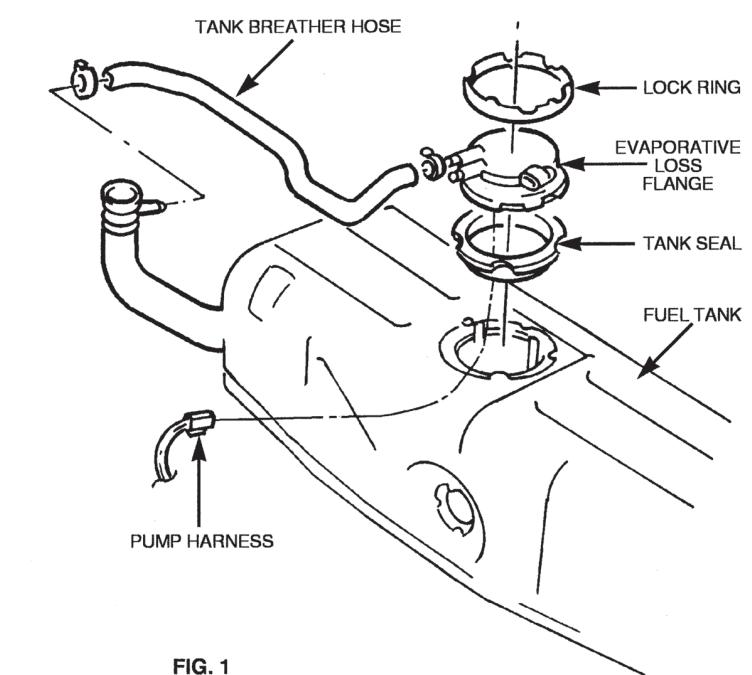

FIG. 1
A) Remove locking ring from evaporative loss flange, (see Fig. 1).